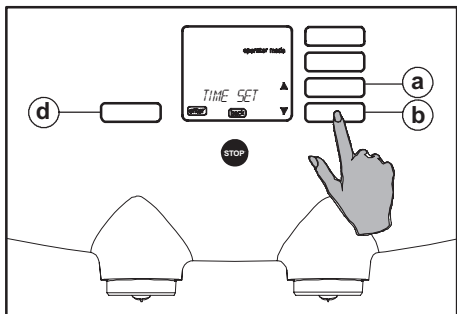

Fig. 56 Selecting the time setting
15. With the scroll buttons \updownarrow , select the option "TIME SET", (fig. 56 a or b).